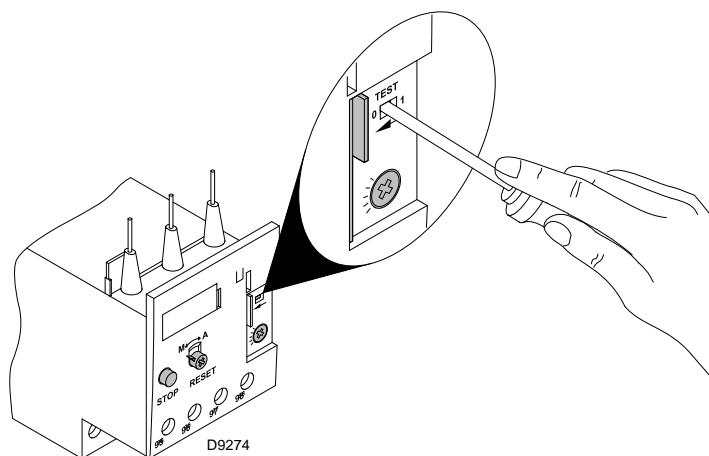

Fig. 39
- To test the thermal relay, insert a screwdriver in the window “TEST” (Fig. 39) and move it in the sense of the arrow (towards right).